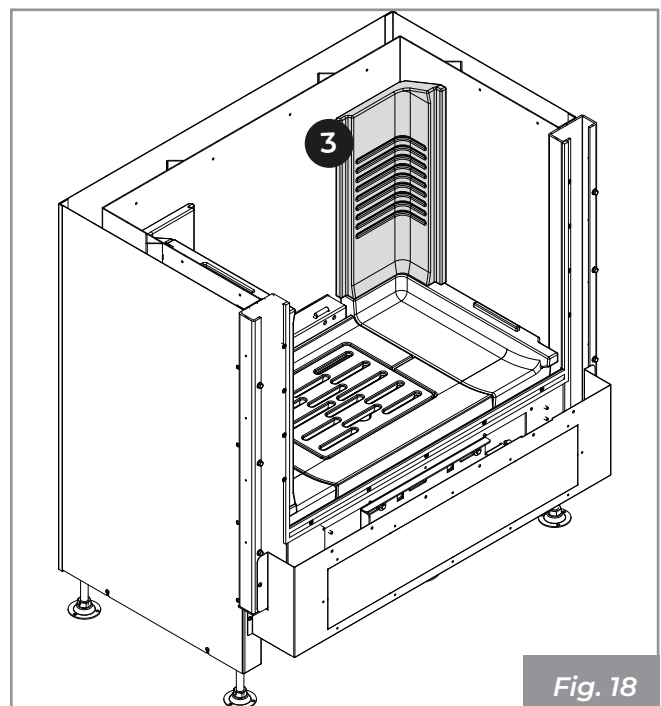

Fig. 18
- 4) Proceed in the same way on the opposite side (Fig. 18).